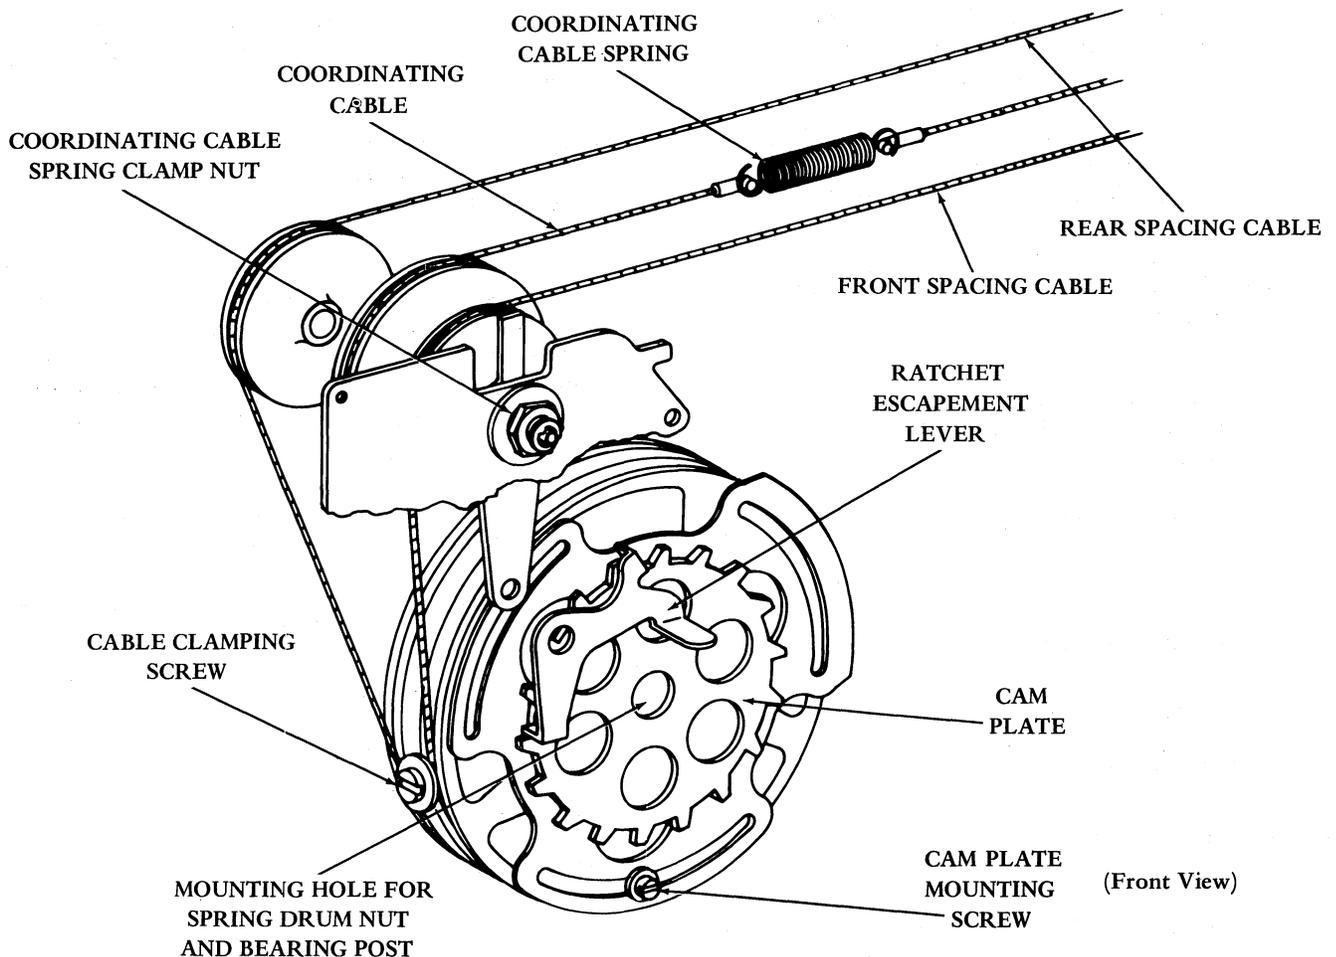

Figure 19 - Spring Drum and Cables
2.43 To remove the spacing cable (wire rope) (Figures 19 and 20) from the front plate, proceed as follows.
2.44 To replace the spacing cable (Figures 19 and 20), reverse the procedure used in removal. Check the following adjustments:
2.45 To remove the coordinating cable from the standard unit front plate, proceed as follows (Figures 19 and 20). For information to remove the cables from the wide platen unit proceed to 2.47.
2.46 To replace the coordinating cable (Figures 19 and 20), reverse the procedure used in removal.